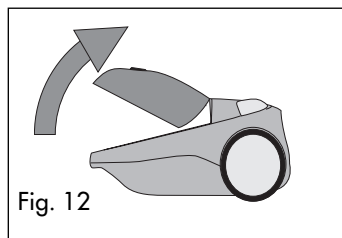
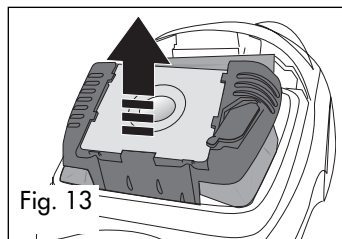

Fig. 12
Fig. 13
To change the dust bag, press the dust collection container release button (M) and lift the cover (fig. 12), extract the bag holder (fig.13), remove the dust bag and throw away. Thread the new dust bag into the guides and push in as far as it will go (fig. 14a). Replace the bag holder (fig.14b) and close the cover of the appliance pressing lightly. The hose coupling automatically enters into the hole in the dust bag. You are recommended to replace the dust bag often when vacuuming up fine dirt such as flour, talcum powder, etc.